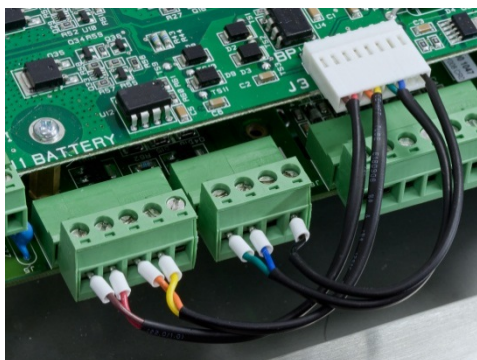

Figure 3-30: IND560x-PAB (J3) to IND560x (J4/J5) Connection
8. Additional connections must be made between the J3 terminal of the IND560x-PAB and the J4 & J5 terminals of the IND560x main board (Figure 3-30). Table 3-8 indicates color codes for wiring the connection. Install the connector included with the IND560x-PAB kit according to these wiring codes.